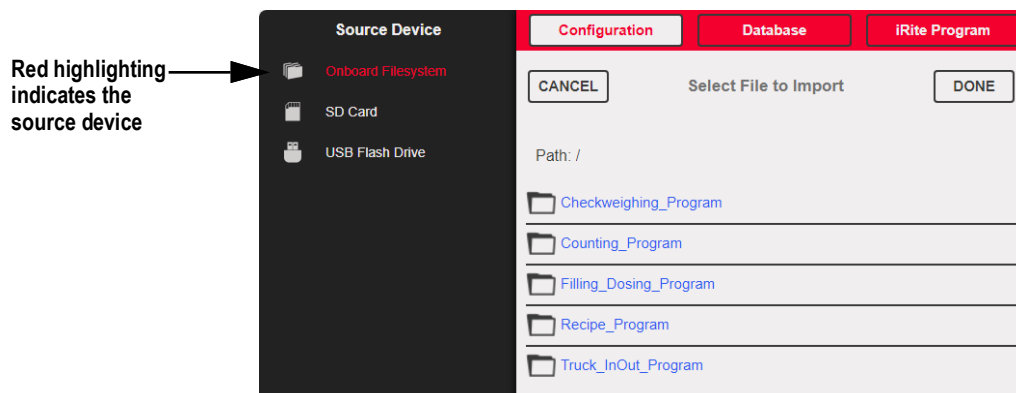

Figure 14-1. Import Configuration
**NOTE:** *The Import Configuration screen looks the same whether importing from an onboard file system, a micro SD card or a flash drive. The only difference is the source device is highlighted in red on the left side of the screen. For an example, see Figure 14-1, a file is being imported from an onboard file system.*
2. Press **Import from File**. The Import Screen displays, see Figure 14-1 on page 125. Load both the .rev and .cod files to use the built-in application programs.
4. Select **Import from File**. The Import Screen displays, see Figure 14-1 on page 125.
2. Press **Import from File**. The Import Screen displays, see Figure 14-1 on page 125.
3. Press **Import from File**. The Import Screen displays, see Figure 14-1 on page 125.